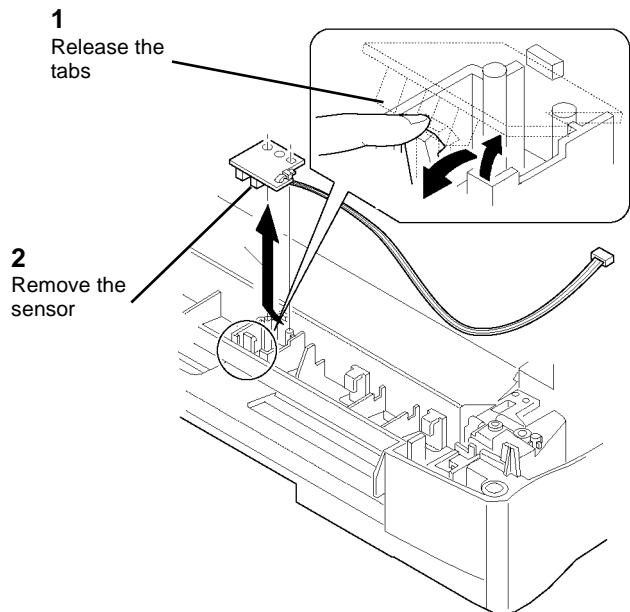

Figure 2 Removing the Bypass Feed Sensor
3. (Figure 2): Remove the Bypass Feed Sensor.